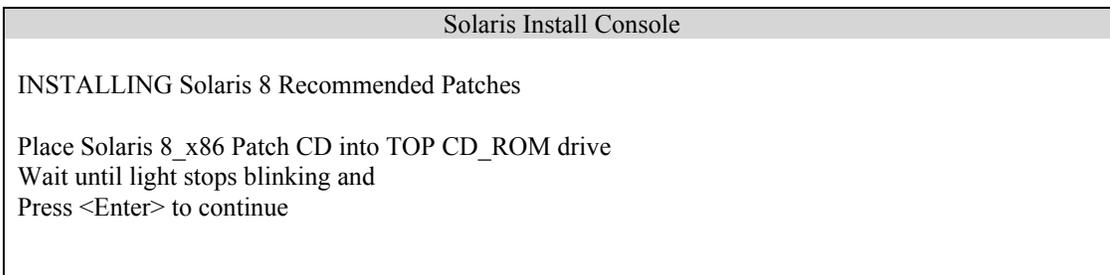

Figure 3-30 Solaris Install Console (Patches)
31. When the Solaris Software is done loading you will be prompted to insert Solaris 8_x86 Patch CD into the top CD-ROM drive (Figure 3-30).